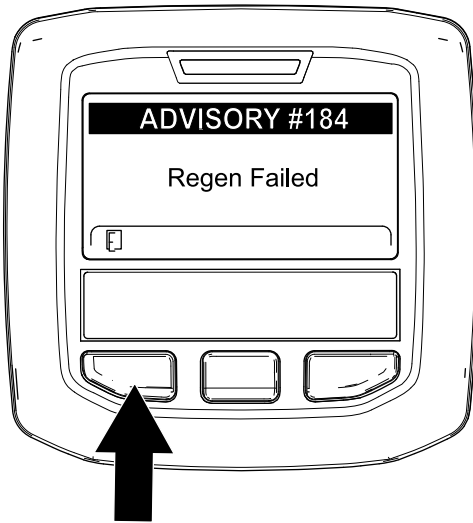

Figure 34
**Note:** If the regeneration fails to complete, the InfoCenter displays Advisory #184 (Figure 34). Press the left button to exit to the home screen.